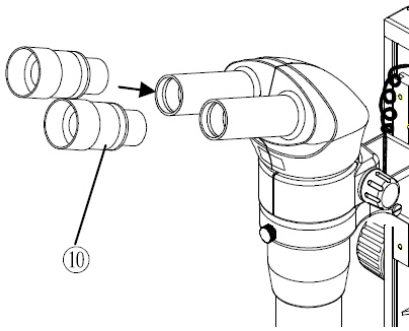

Fig.4
4.2.3 Mounting eyepieces (Fig.4)
1. Remove the eyepiece dust caps and gently insert two adjustable eyepieces (10) into the eyepiece sleeves until they stop, as in Fig.4.